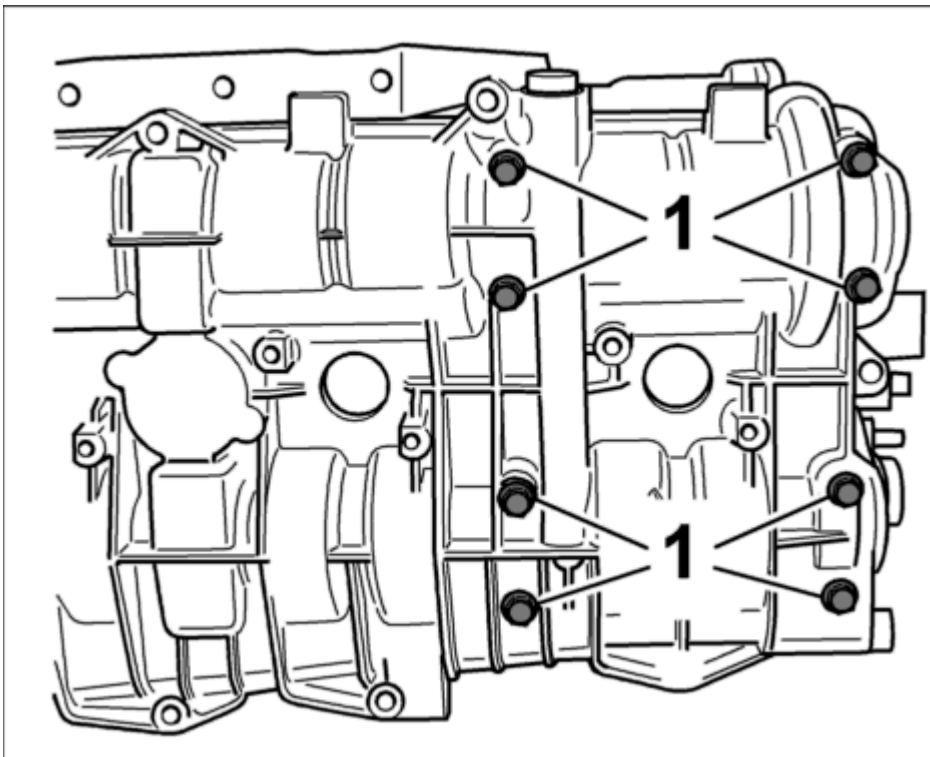

Fig. 206: Screws for camshaft bearing surface
3. Coated screws on the camshaft bearing surfaces -1- must be replaced. See **Fig. 206**.